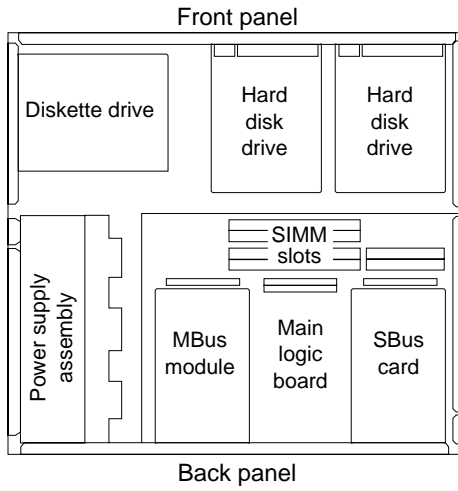

FIGURE 1-4 Top View of the SPARCstation 10 System without Cover
- FIGURE 1-4 presents the top view of the system with the cover removed, without the cabling.